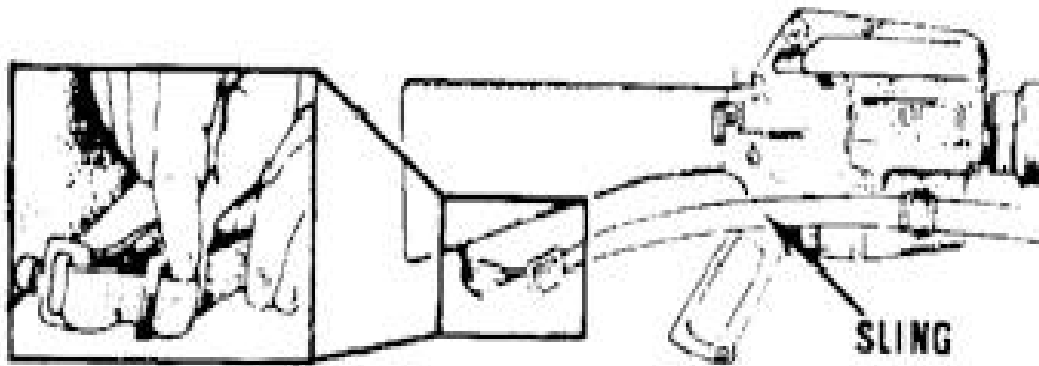

Figure E-39. Placing the sling.
- p. Replace the sling (figure E-39).